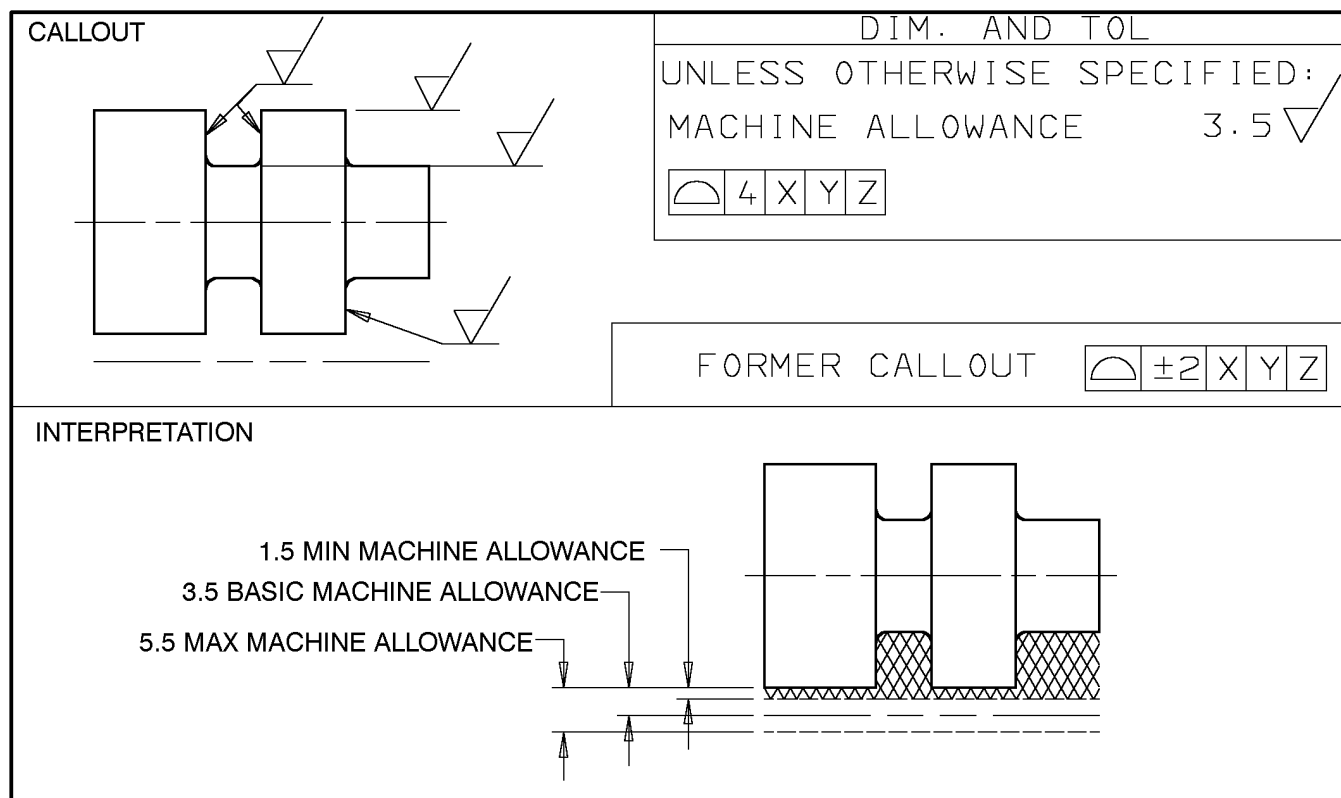

Figure 19 - Machine Allowance - Phantom Line Override
**10.9.1** The callout in Figure 19 shows machining required symbols for the outside diameter, sides and bottom of groove, shoulder and reduced end diameter that provide the 3.5 mm basic machine allowance and 4 mm general profile tolerance. A phantom line is also shown to override the normal machine allowance interpretation for determining casting or forging contour.